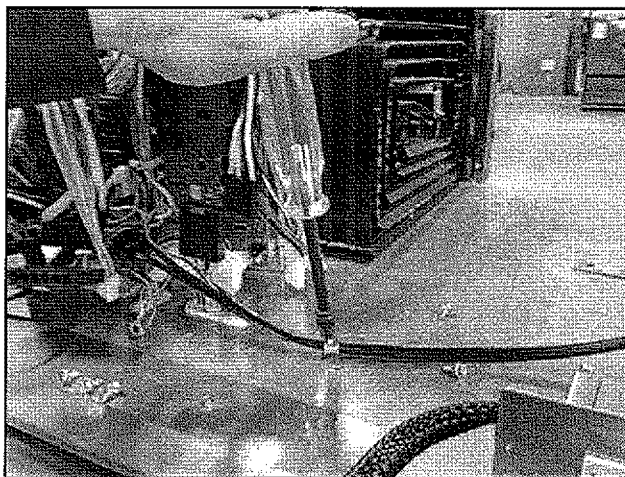

FIGURE 10
12. Remove power cord strain relief. Set screws aside and remove the HV box assembly from the unit. See *Figure 10*.